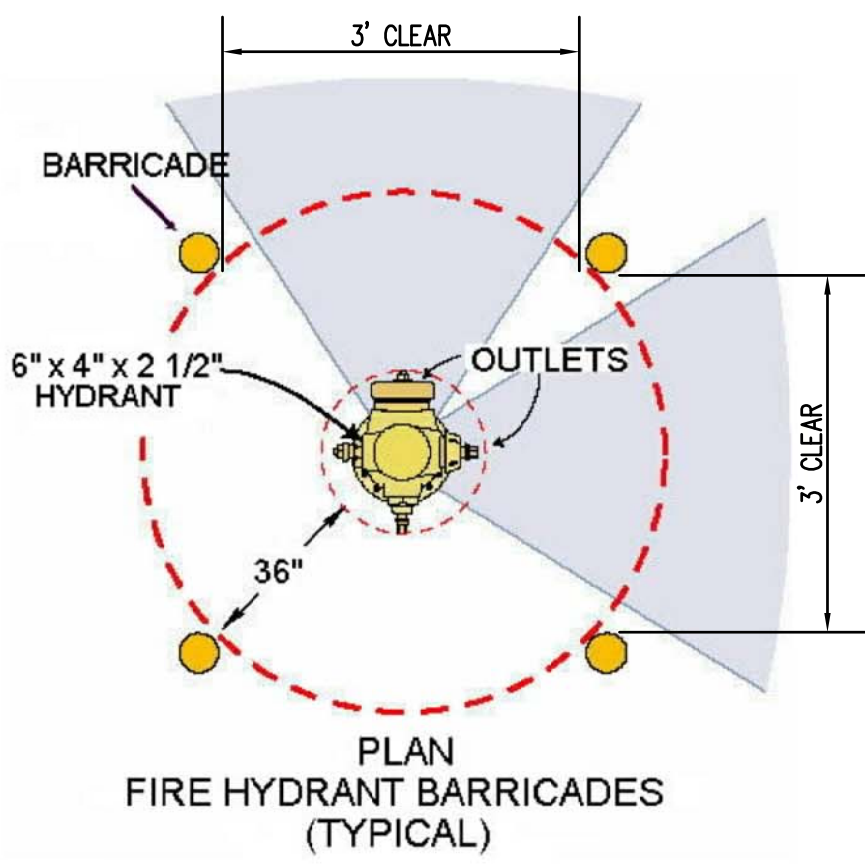

Figure 2
- Posts, fences, vehicles, growth, trash storage and other materials or things shall not be placed or kept near fire hydrants in a manner that would prevent fire hydrants from being immediately discernable. If hydrant to be barricaded; no barricade shall be constructed in front of hydrant outlets. (Figure 2, shaded area)